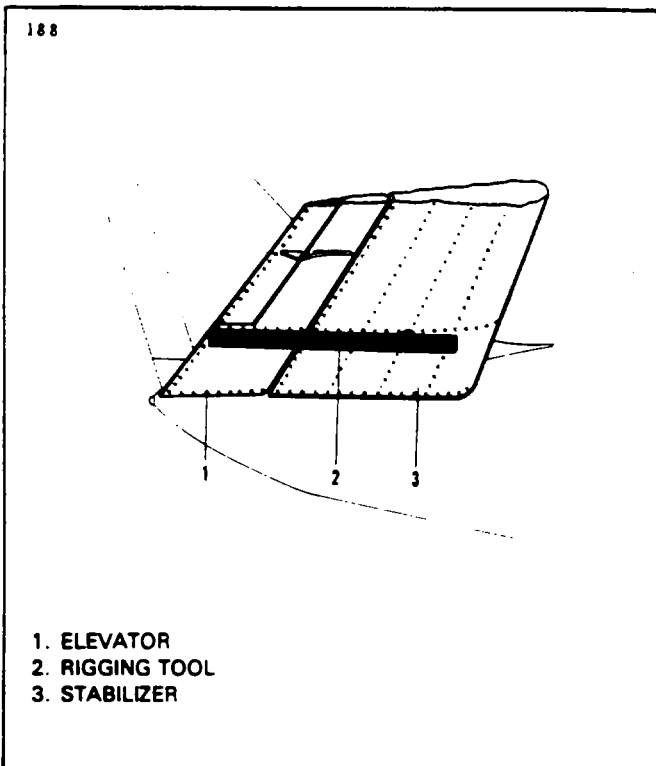

Figure 27-18. Installation of Elevator Rigging Tool
2. Put the elevator in neutral position by placing a modified straightedge, as shown in Figure 27-18, against the underside of the horizontal stabilizer, next to and inboard of the row of rivets at station 19.00 with the aft end of the tool even with the trailing edge of the elevator. (This tool may be fabricated from dimensions given in Chapter 95.)